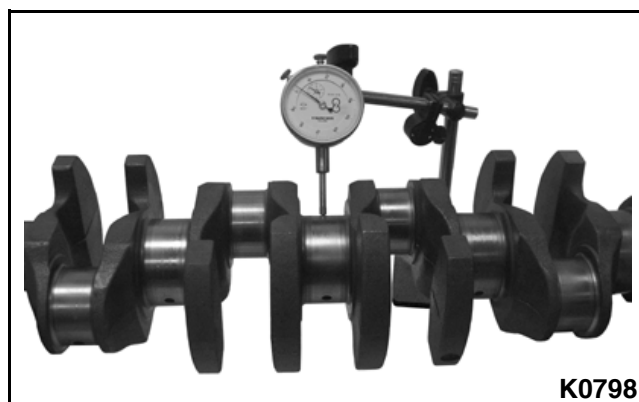

Figure 3-229
2. Place the crankshaft on V-blocks. Using a dial indicator, measure the circle runout at the center main journal. **See Figure 3-229.**